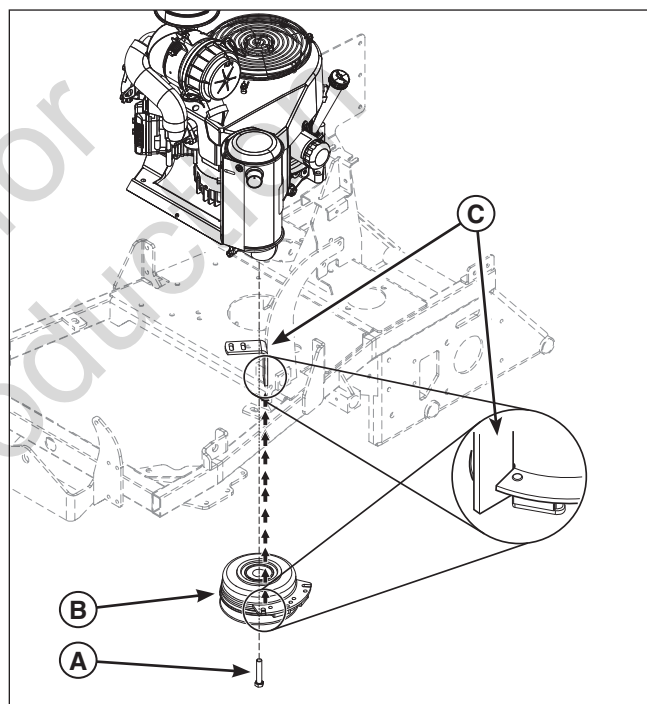

Figure 48. Removing the PTO Clutch
- Loosen and remove the crankshaft bolt (**A**, **Figure 48**) and the PTO clutch (**B**) from the engine crankshaft.
9. Reinstall the PTO clutch (**B**, **Figure 48**) on the engine crankshaft so that the slot in the PTO clutch lines up with the PTO clutch mounting tab (**C**) and secure with the crankshaft bolt (**A**). Tighten the crankshaft bolt to 65 ft. lbs (88 Nm).